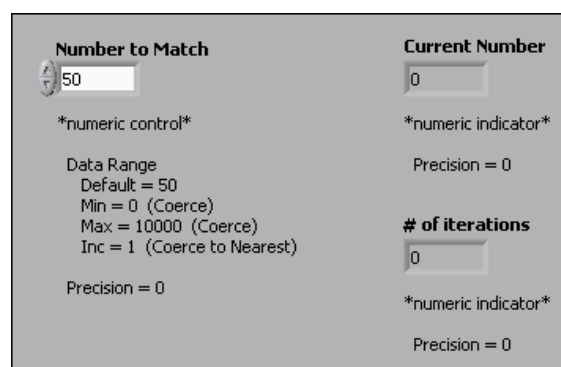

Figure 4.5
1. Open a blank VI and build the front panel shown in Figure 4.5. Modify the controls and indicators as shown in the front panel (Figure 4.5) and as described in the following steps (p. 76).